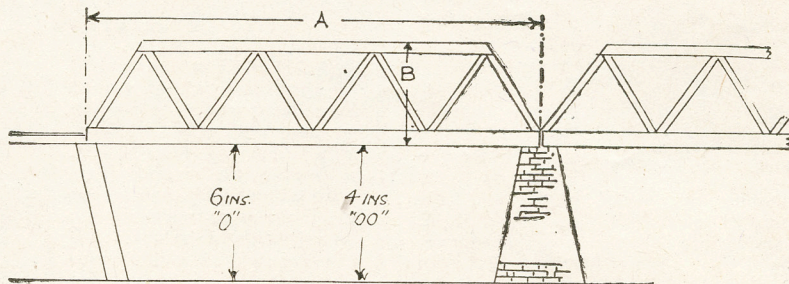
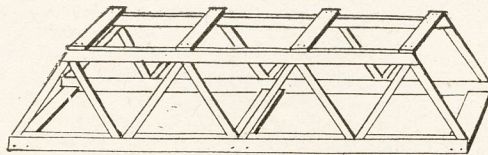

Fig. 1—A section on a girder bridge on a brick pier
Fig. 3—The girder pattern made into a section
greater than 15in., thus giving the depth of girder (B, in Fig. 1) at 3in., which will give a well-proportioned structure.
It will be seen that the end of the brass tooth, which protrudes beyond the panel, must be filed to fit easily in the sprocket holes of the film, as at (F) in Fig. 3. Make sure the fit is an easy one, or damage may result to the film. Now limit the outward movement of the upper half of the traveller with a small bent piece of tin, seen in Fig. 1 (4). It can be about $\frac{1}{2}$ in. long and should rise above the panel $\frac{1}{2}$ in., its bent-over edge just catching the traveller and preventing it rising higher. To regulate the distance travelled by the tooth, fit the part (5) (the regulator, seen on the pattern page) just below the traveller, when the latter is at its lowest point.
The shutter (7) can now be fitted. Turn the cam until the traveller rises and the compressor is just coming into action, then fix the shutter in the position shown in Fig. 1 where one arm just covers the window (8). It can be fixed with a small screw to each arm of the compressor below.